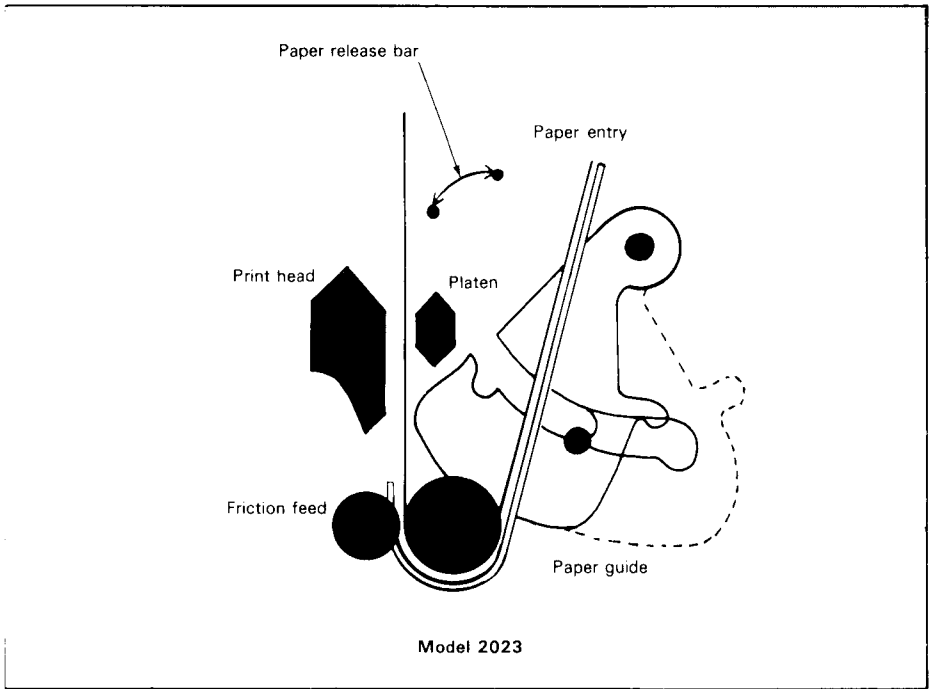

Figure 1-37. CBM 2023 Printer Paper Path
4. To adjust or remove the paper, lift the paper release bar to loosen the friction feed mechanism (see Figure 1-37). Remove or adjust the paper, and push the bar back to its original position.